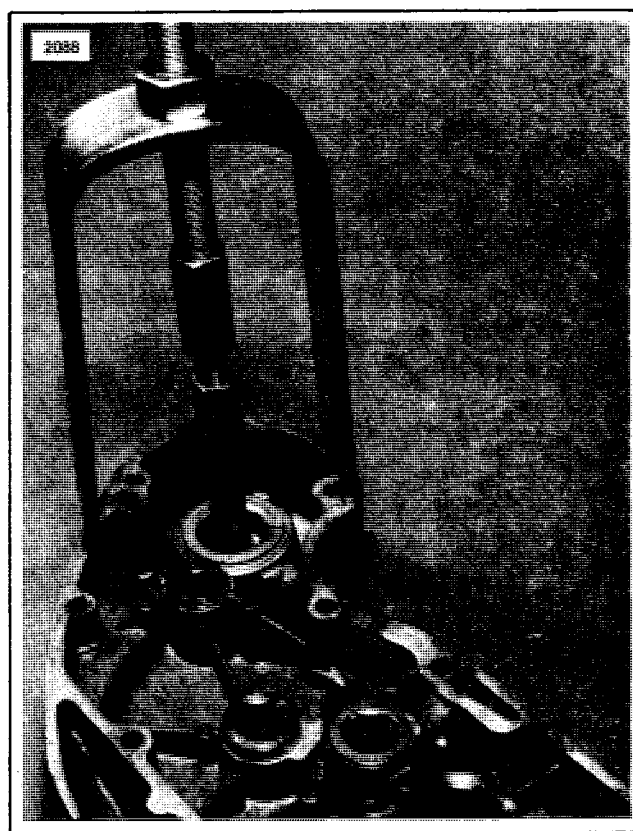

Figure 2. Early Style Reed Valve Removal
2. See Figure 2. With the gearcase cover on a bench, use bushing and bearing puller tool kit, Part No. HD-95760-69, along with the 5/8 in. tool collet, Part No. HD-95766-69, and remove the early style reed valve.